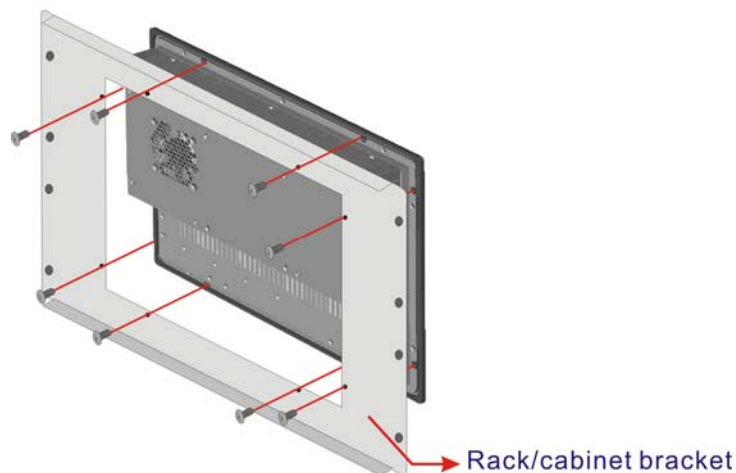

Figure 4-33: Secure the Rack/Cabinet Bracket
Step 4: Secure the rack/cabinet bracket to the PPC-3712A-N270 flat panel PC by inserting the retention screws (**Figure 4-33**).